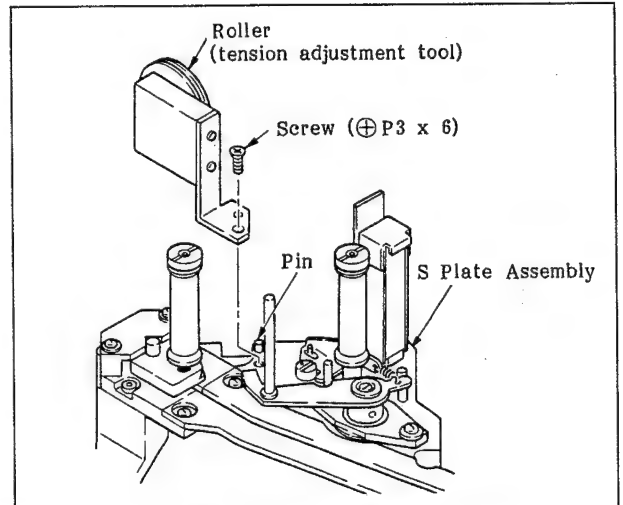

Fig. 9-7 Installation of the Roller
23. Place the hole of the roller of the tension adjustment tool over the pin of the S plate assembly and fix them with one set screw (+P3x6). (Fig. 9-7)